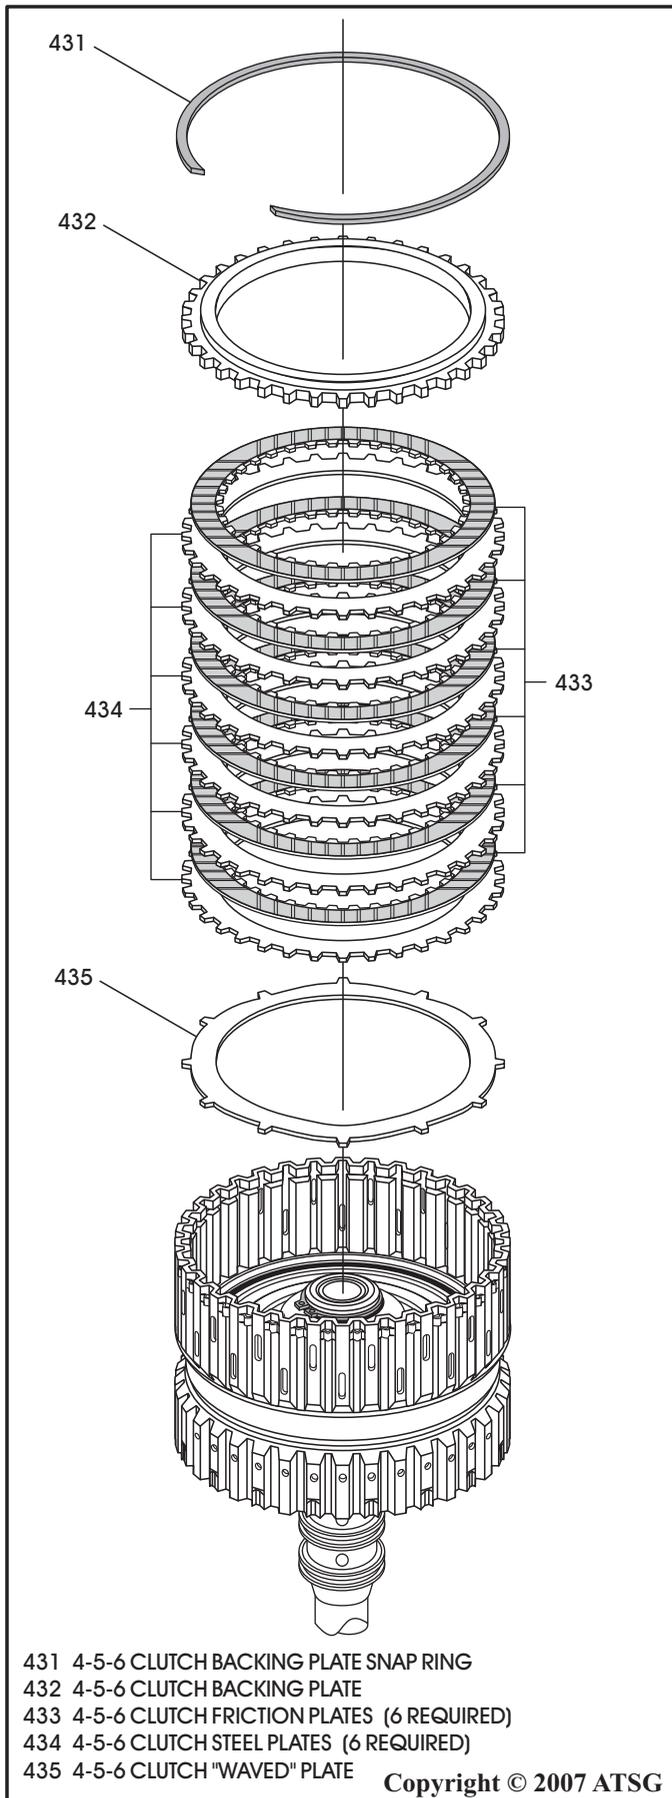

Figure 78
11. Install the 4-5-6 clutch "wave" plate, as shown in Figure 78.
12. Install the 4-5-6 clutch plates beginning with a steel plate and alternating with friction plate until you have installed 6 of each, as shown in Figure 78.
13. Install the 4-5-6 clutch backing plate, as shown in Figure 78.
14. Install the 4-5-6 clutch backing plate selective snap ring, as shown in Figure 78.